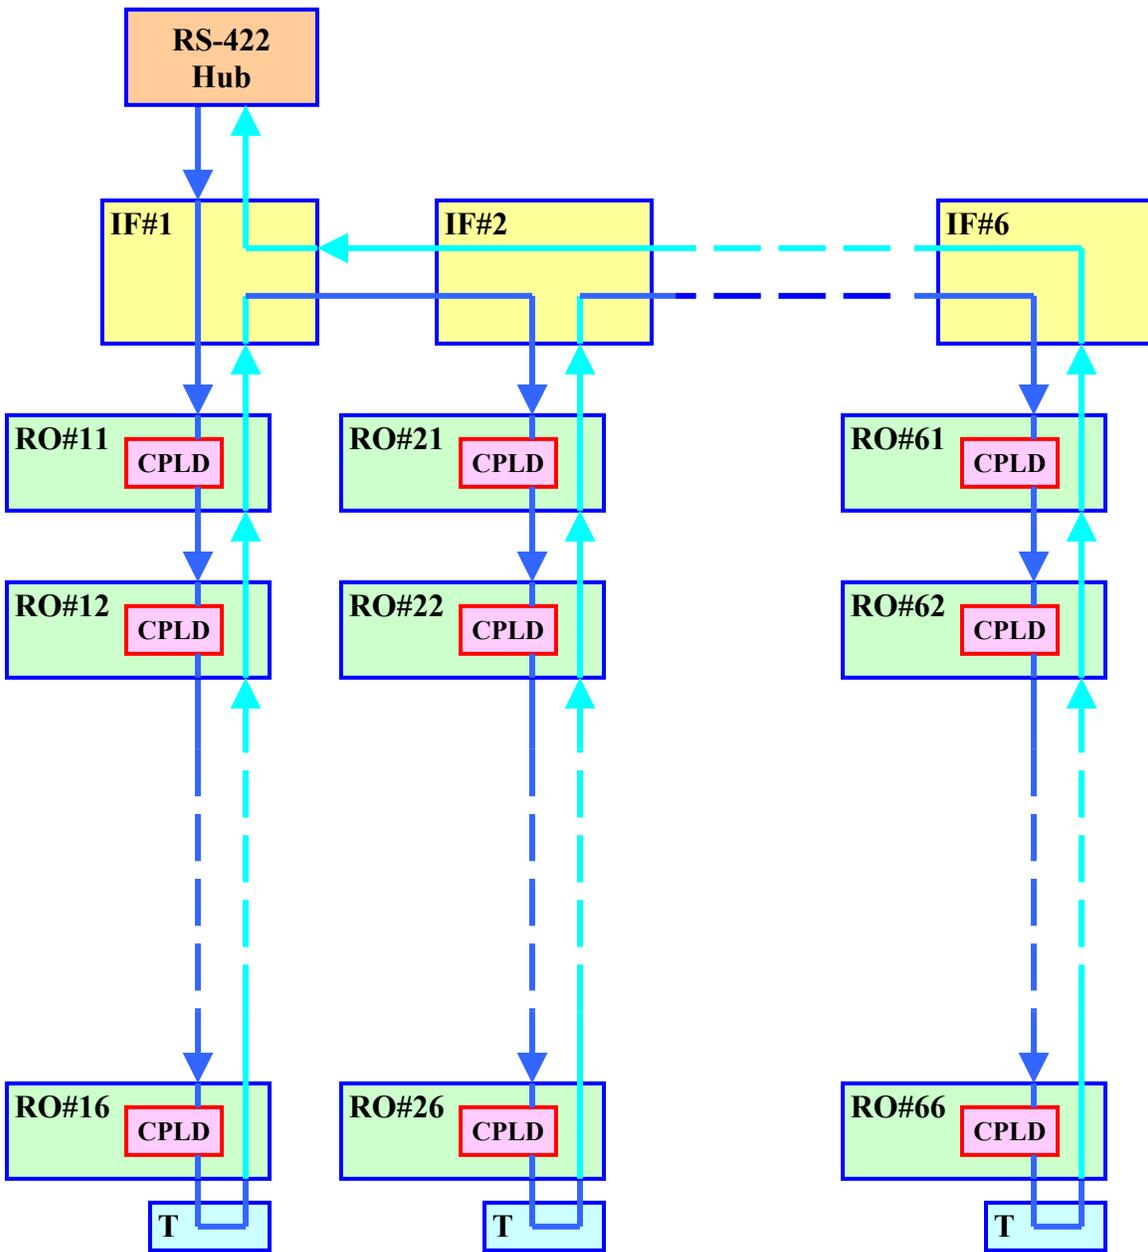

Fig.3. Diagram of Verification and Downloading of CPLDs
The JTAG link contains four signal wires: Test Mode Select (TMS), Test Clock (TCK), Test Data In (TDI), and Test Data Out (TDO). The TMS and TCK signals are transferred to all readout boards like a command in DAQ link. The TDI and TDO signals form a daisy chain, as it shown in Fig. 3. The last TDO signal returns to the host through all interface boards. To provide a return of TDO to the host the last interface board should differ from others.
- ◇ RS-422/CMOS interface (see Fig. 3)
- ◇ One or two CMOS/LVDS interfaces (see Fig. 3 - 5)
- ◇ TAP controller (see Fig. 3)
The TMS and TCK signals from the TAP controller (or from the upstream connector J6) translated both to the connector J7 and to the downstream connector J8. The TDI signal is directed to the connector J7 only in accordance with Fig. 3. The TDO output of the nearest readout board is used as TDI for the downstream connector J8 forming a daisy chain for subsystem in whole. The TDI signal from the downstream connector is translated to the upstream connector J6 as TDO closing a daisy chain.